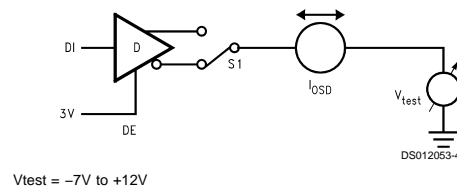

FIGURE 4. Driver  $I_{OSD}$
| $I_{OSD}$                                  | Driver Output Short-Circuit Current             | $V_O = +12V$   | (485) Figure 4         |                 | 200    | +250 | mA         |    |